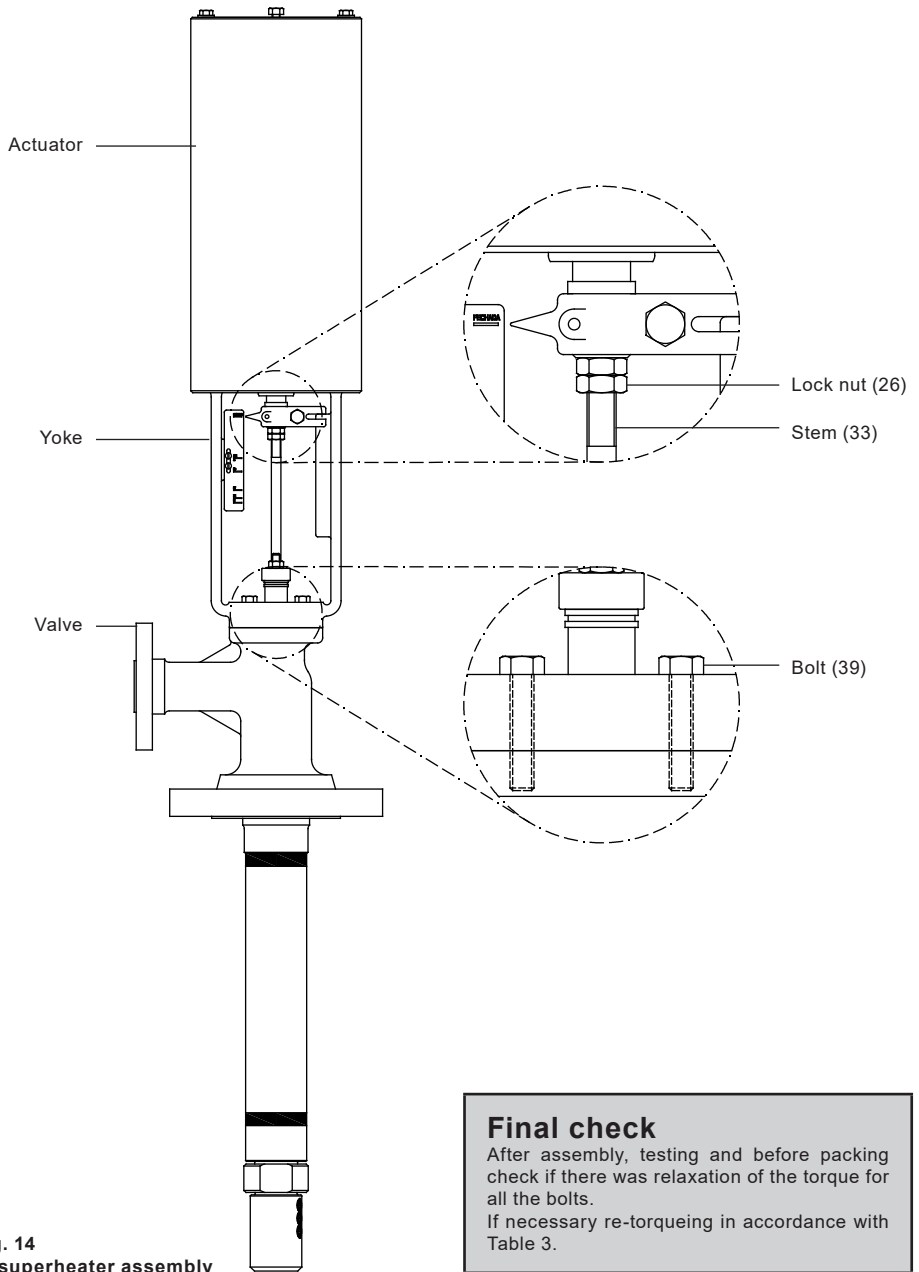

Fig. 14
- Apply graphite-based grease NEVER SEEZ PURE NICKEL SPECIAL on bolt threads (24).
- Pull the cylinder (1) vertically until the split ring (23) fits into the bonnet (19) and lock them with bolt (24). Tighten applying the torque from table 3.
- Assemble the stroke indicator (14) into the stem (12) and lock with bolt (15) and tighten applying the torque from table 3.
- Assemble the stroke nameplate (17) into the yoke (19) with bolts (16) and tighten applying the torque from table 3.
- Insert the blanking bolt (3) into the cylinder cover (2).
- Thread the valve stem/plug assembly (33) into the actuator stem (12) until some mechanical resistance is felt due to the sealing of plug (35) on the seating.
- Apply graphite-based grease NEVER SEEZ PURE NICKEL SPECIAL on bolts (39) threads.
- Couple the actuator on the valve using the bolts (39). Tighten applying the torque from table 3.
- Adjust the stroke according to the nozzle type, following the sequence: supply (pressurize) the actuator until the stroke indicator aligns to the letter corresponding to the stroke position - according to the Specification Sheet. Interrupt the actuator supply (depressurize) and check if the stroke indicator is aligned to the letter "F" (closed). If it is not, rotate the valve stem (33 on figure 14) through the lock nuts 2 turns at a time. If it aligns, lock the valve stem to the actuator stem by the lock nut, otherwise, repeat the sequence until it aligns.